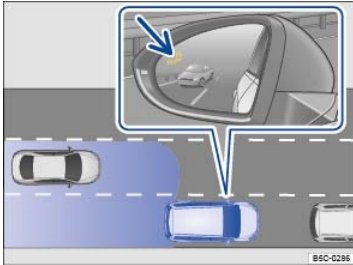
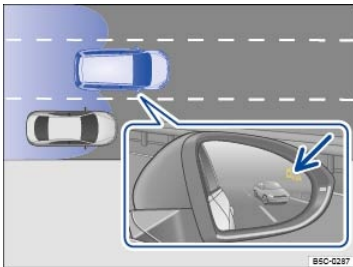

Fig. 183 Driving situation when passing with traffic behind your vehicle. Arrow: Blind Spot Monitor indicator light in the driver side mirror.
Fig. 184 Driving situation when passing and merging into the lane. Arrow: Blind Spot Monitor indicator light in the passenger side mirror.
The following situations result in a signal in the outside mirror ⇒ *Fig. 183* (arrow) or ⇒ *Fig. 184* (arrow).
- If your vehicle is being passed by another vehicle ⇒ *Fig. 183*.
- When passing another vehicle ⇒ *Fig. 184*, and the difference in speed between the two vehicles is no more than about 6 mph (10 km/h). There is no signal if the passing speed is clearly faster.